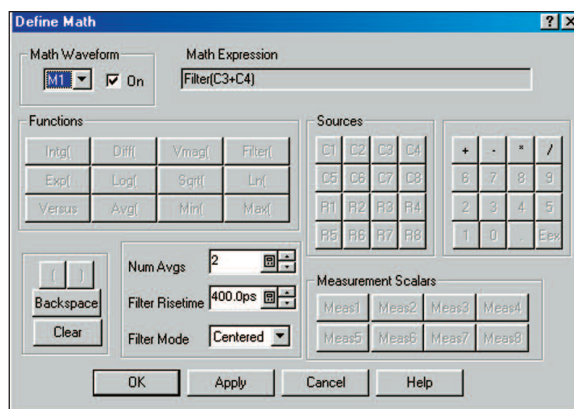

Figure 15. Define Math Menu
- In the math menu (under Edit in the Windows® toolbar or the math icon in the oscilloscope toolbar), select Filter and enter the rise time desired for your test in the Filter Risettime menu (Figure 15). Typically 400 ps is used for USB devices.